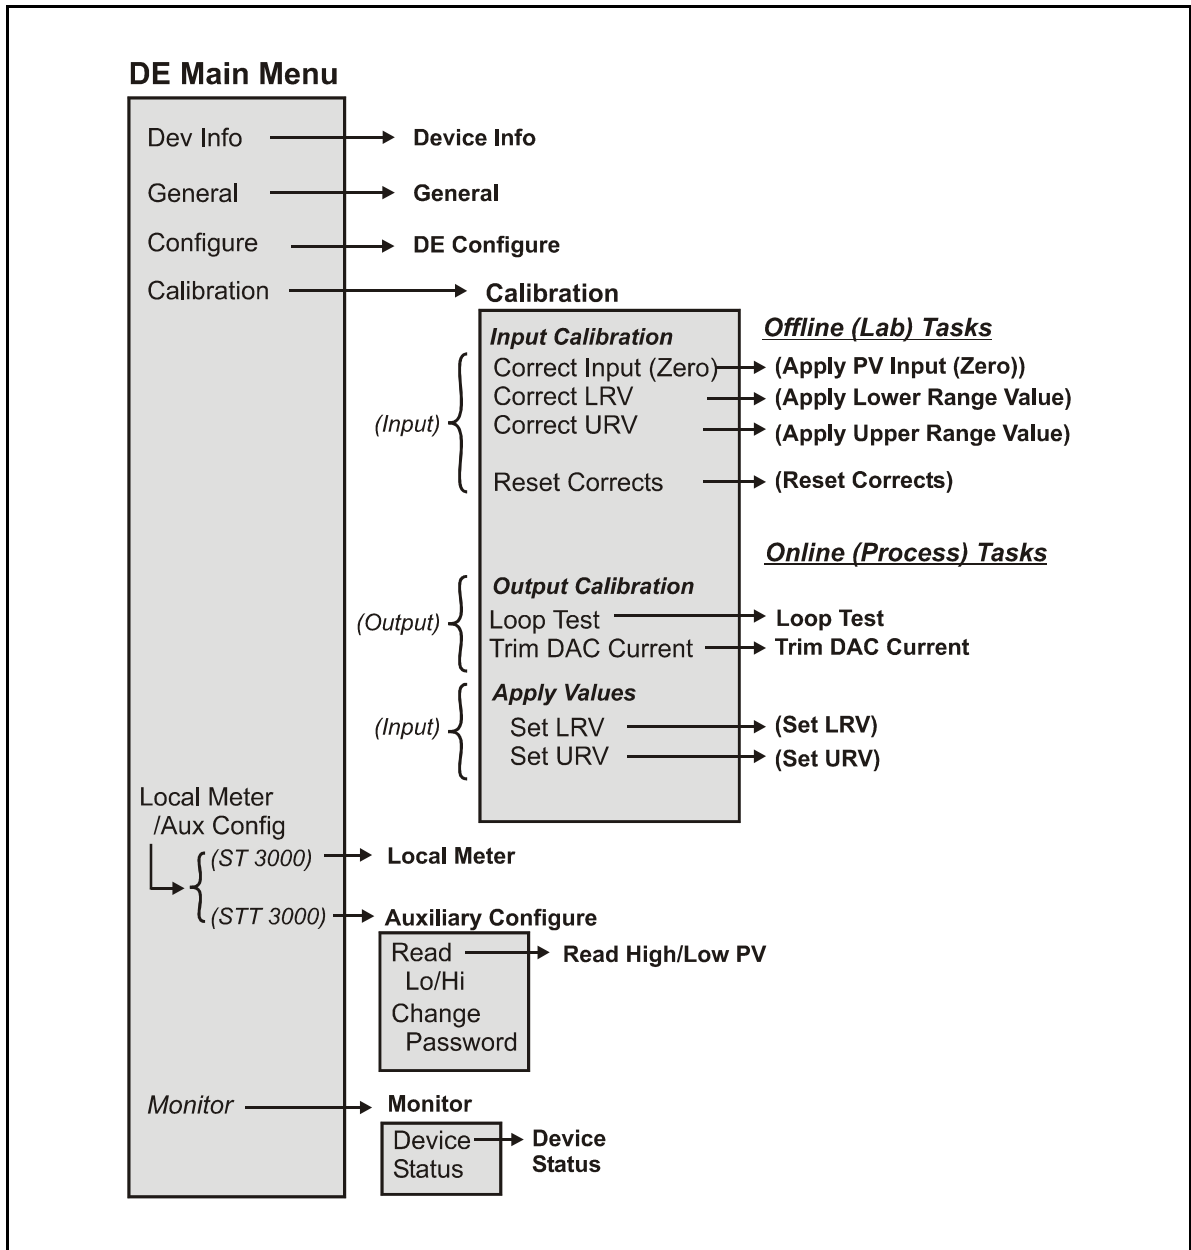

Figure 9 Menu Tree - Honeywell DE Displays
In general, selecting a button in a display will call up the next-lower-level display, whose title is the same or similar to the label on the button. A menu tree for Honeywell DE Displays is given Figure 9, and a menu tree for HART display is given in Figure 10.
- Upload the database from the transmitter. (The **QUICK MONITOR** display will enable viewing of key parameters before taking the time for database uploading.) The **DE MAIN MENU** appears. (Refer to Figure 9 Menu Tree - Honeywell DE Displays in this section.)